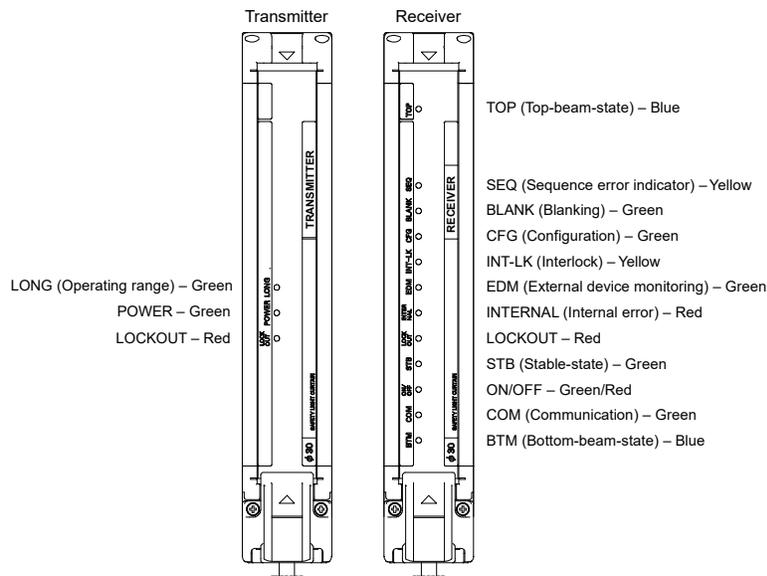

Figure 3-1. Shadow 9 LED Indicators
Shadow 9 LED indicators on transmitter, receiver, and the optional Shadow 9 control box provide information about light curtain operation. See *Figure 3-1*, page 98, *Table 3-1*, page 98 and *Table 3-2*, page 99.
- LEDs on the transmitter and receiver indicate operating state and settings (see *Figure 3-1*, page 98; *Table 3-1*, page 98, and *Table 3-2*, page 99).